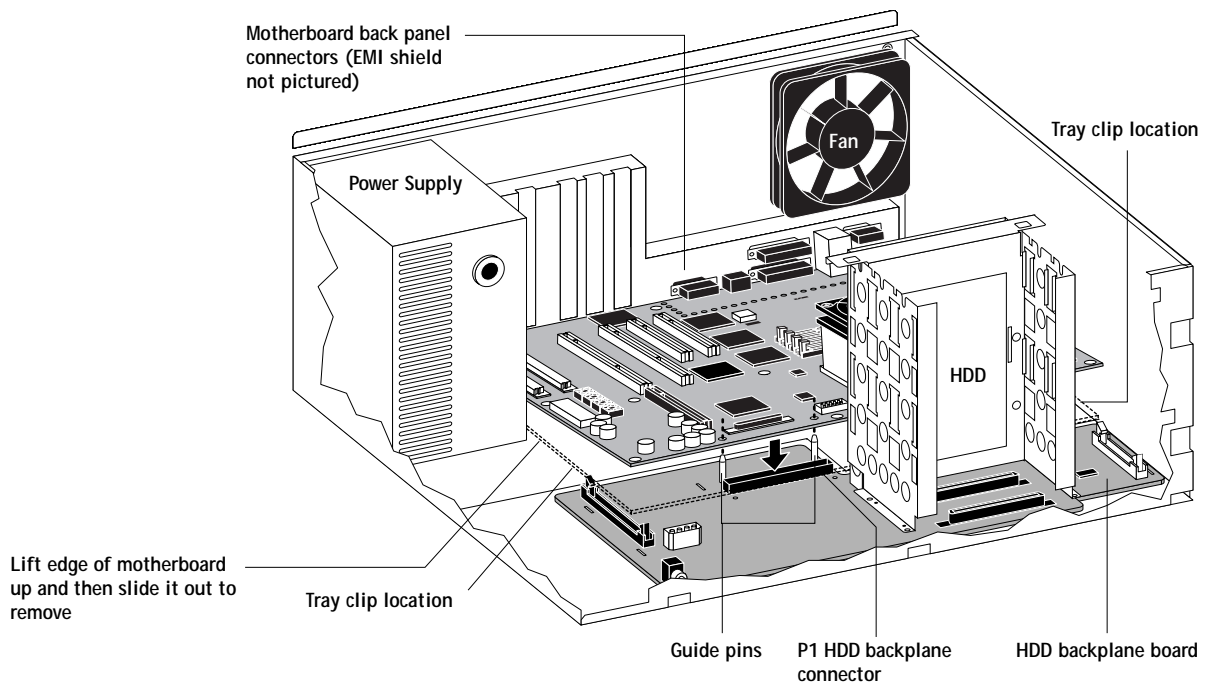

FIGURE 4-20 Removing the motherboard
4. Push outward on one of the tray clips around the edge of the motherboard and then gently lift up that edge of the motherboard to release it (see Figure 4-20).
5. Push outward on the other motherboard tray clip and then lift up that edge of the motherboard to release it (see Figure 4-20).
7. Gently slide the motherboard out of the Fiery ZX tray (see Figure 4-20).
3. Angle the motherboard so that the back panel connectors on the motherboard fit into the cutouts in the back of the tray, and the edge of the motherboard fits underneath the three tray clips. See Figure 4-20 on page 4-26.
4. Align the guide holes in the motherboard with the guide pins located on either side of connector P1 on the HDD backplane board (see Figure 4-20 on page 4-26).